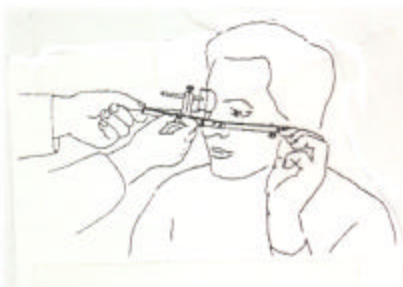

Fig. 2
2. Loosen set screw 1 and put porous buttons 6 into the outer auditory canals (Fig. 2).